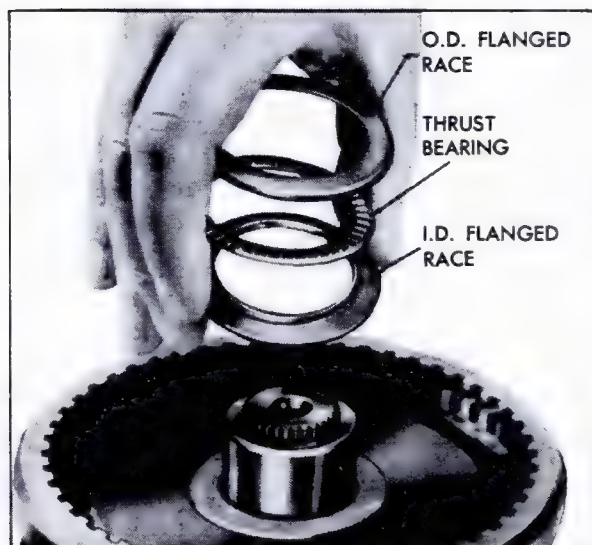

Fig. 7-100 Installing Races and Thrust Bearing on Outer Face of Rear Internal Gear
a. Install small diameter (flanged I.D.) race first, with flange facing up, Fig. 7-100.